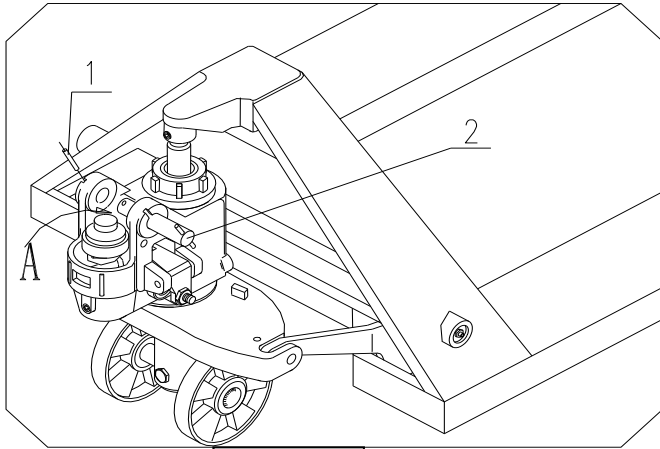

Figure 1
See Figure 1. Remove Cotter Pin (1) from Axle Pin (2), then pull and remove Axle Pin (2).
Next, place handle tube (3) into Position A (see Figure 1)